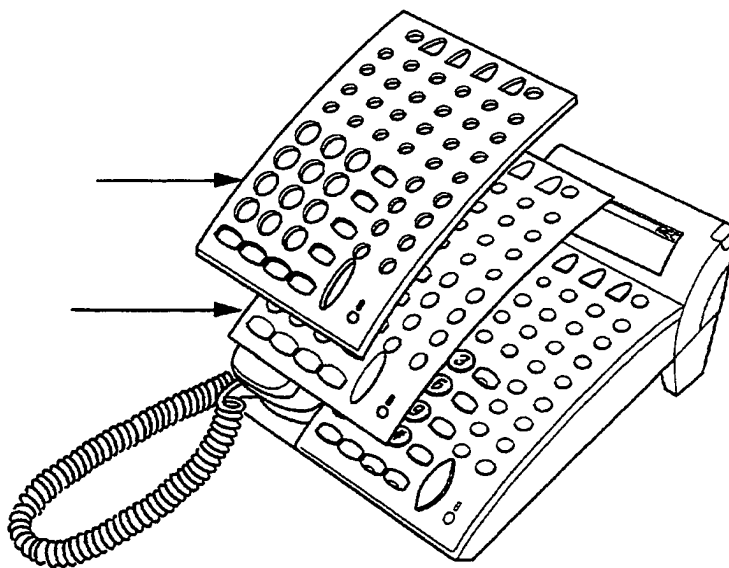

Figure 1-46 Installing Line Card and Plastic Panel on a Multiline Terminal
2. Place the plastic panel over the keys on the Multiline Terminal and snap it into place. Refer to Figure 1-46 - Installing Line Card and Plastic Panel on a Multiline Terminal.